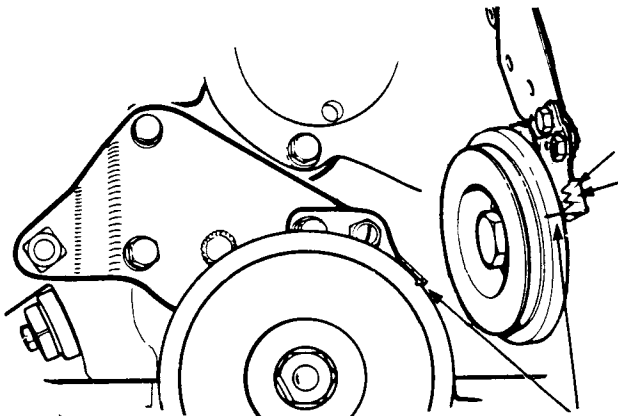

Fig D3.3
- (3) Refer to Fig D3.3. Rotate the crankshaft in the engine run direction until the mark (1) on the crankshaft pulley is approximately 20° before the correct setting for TDC.
- (4) Carefully rotate the crankshaft further until the lamp just comes on. If the timing is correct the crankshaft pulley mark will now be opposite the setting for 12° BTDC.